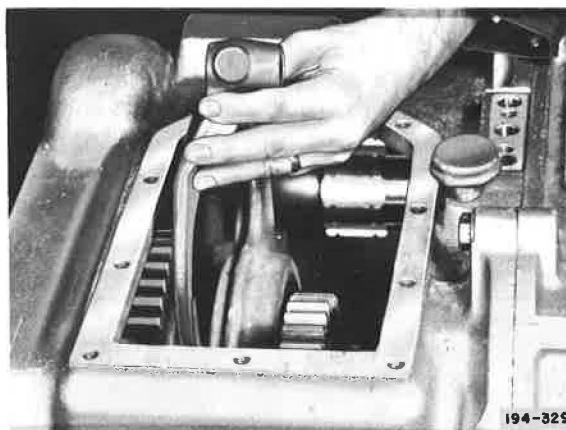

Figure 5-109. Installing Reverse Speed Shifter Fork
26. Install reverse speed fork on reverse speed sliding gear and install first speed fork on first speed sliding clutch. See Figures 5-109 and 5-110.